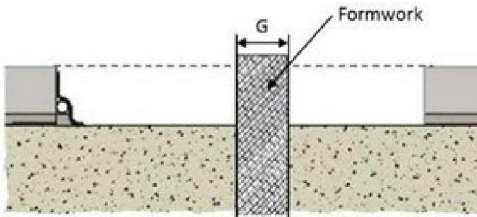

Figure 3: Formwork installation
- Install a formwork of G thickness in polystyrene (a plywood-polystyrene-plywood sandwich for thickness over 65 mm) or in wood (Figure 3). If plywood is used, it must be coated with a form oil before being installed.